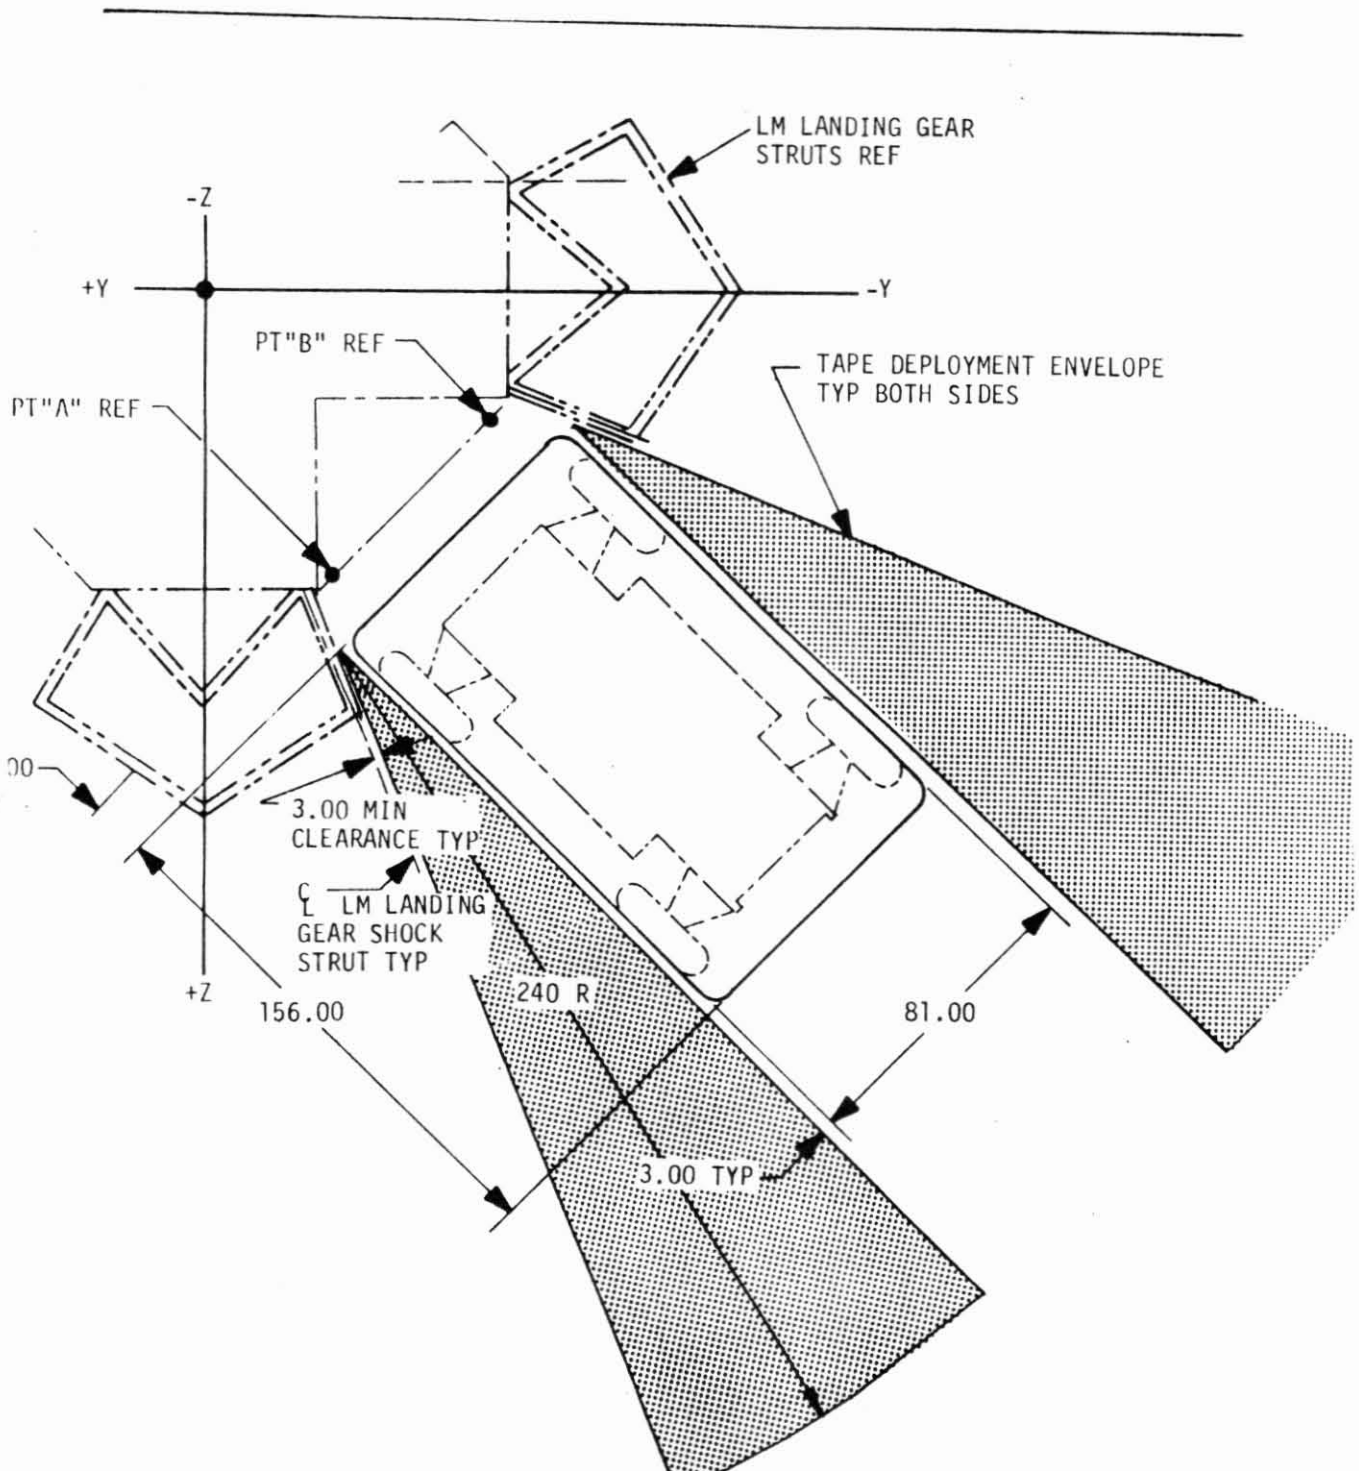

FIGURE 2-3 LRV DEPLOYMENT ENVELOPE AND ENVELOPE FOR DEPLOYMENT TAPE OPERATION
|          | <div style="text-align: center; border: 2px dashed black; padding: 5px; width: fit-content; margin: 0 auto;"> CAUTION </div> <p>During and subsequent to deployment D-handle operation, both crewmen should remain out of the LRV deployment envelope.</p> | Figure 2-3.   |
| 2.1      | <p>(Continued)</p> <p>l. Descend LM ladder. Grasp deployment cable and monitor deployment activity.</p> <p>m. Other crewman pulls double braked reel tape at right side of vehicle. Verify LRV rotates outward from LM (Figure 2-5, View B).</p> <p>NOTE: Crewman should remain within defined envelopes for deployment tape operation (Figure 2-3) to ensure that deployment tapes do not contact sensitive LM components.</p> <p>n. Continue to pull double braked reel tape (figure 2-5, View C). When vehicle rotates outboard to about 45 degrees, verify that:</p> <p>(1) Aft chassis unfolds and locks in position.           (2) Rear wheels unfold and tethered rear wheel struts fall free.           (3) Forward chassis is released from console post and returns to 35 degree position.</p> <p>NOTE: If either aft or forward chassis latch pins fail to pull automatically, deployment cable may be pulled to accomplish pin release.</p> <p>o. Continue to pull double braked reel tape (Figure 2-5, View D). Verify that:</p> <p>(1) Center/aft chassis rotates until rear wheels contact lunar surface.           (2) Rear wheels slide on surface permitting center/aft chassis to move away from LM.</p> | <p>Crewman operating deployment cable should keep slack out of double braked reel cables.</p> <p>For first 15 degrees of rotation LRV rotates on apex fittings, thereafter apex fittings lift off spools and rotation point shifts to walking hinge. Lower telescopic tubes ratchet engage at 35 degrees rotation.</p> <p>At about 45 degrees the 45° cable tightens, pulling the forward and aft chassis latch pins at the console post mount on the center chassis. The aft chassis and wheels fully deploy and the forward chassis returns to the 35° position.</p> <p>At about 73 degrees, the cam on forward sides of center chassis strikes latch lock arm, forces arm down out of retaining spring and unlocks latch.</p> |